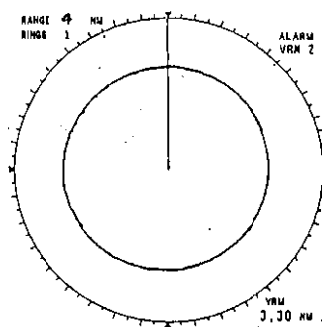

Fig.1-12
3. Press the SET/RESET touchpad once, and the outer/inner range of the alarm is set. At this time a weak intensity ring is overlaid on the VRM to mark the inner or outer limit of the guard zone. Furthermore, the message "VRM1" will change to "VRM2," and the message "ALARM" is displayed at the top right-hand side of the screen, indicating the alarm is now activated. See Fig.1-12.